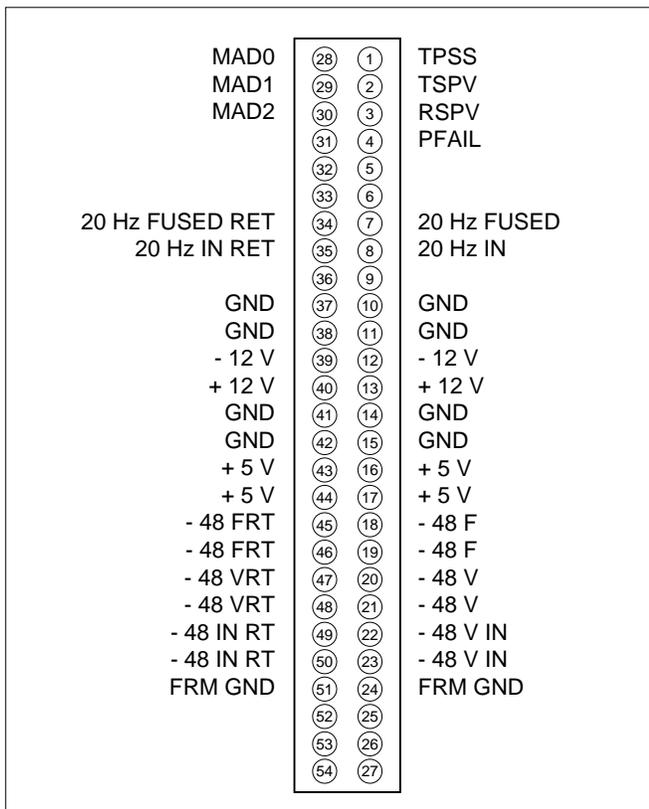

Figure 2. Connector Pin Assignments
3.1 Figure 2 shows the ACT PSU connector pin assignments. All inputs and outputs to the ACT PSU are made through the backplane. No additional backplane wiring is necessary for normal operation.